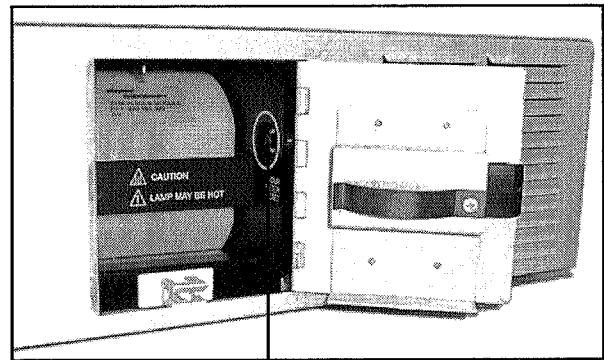

Figure 7
- f. Reset the lamp HOUR METER by pressing the RESET HOURS switch located near the lamp door (see figure 7).